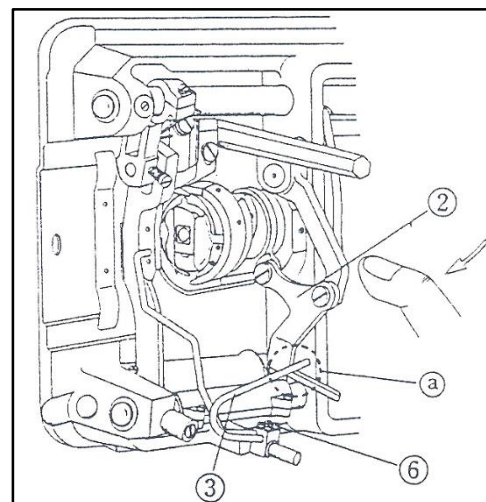

Figure 7.21
As shown in Fig. 7.21 with the spool catcher lever (3) relaxed, release the fixing screws (6) and adjust the lever (3) until it is touching the bottom of the connector link (2) as shown by (a).